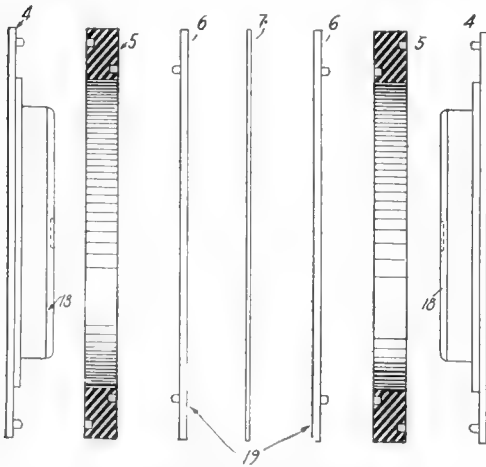

Fig. 1. Metallic spacing washers used in the new quenched spark-gap
**I**N designing quenched spark-gaps a number of inventors have attempted to produce dischargers in which the spacing of plates, or length of gap, would not be determined by the pressure applied to the gaskets separating the elements of the gap. When thin press-board or rubber composition gaskets are used under heavy pressure, the gaps sometimes become too short. This is especially likely to happen when the apparatus grows hot after long use. A method of construction patented by R. Pfund in late 1915, and shown in specification 1,161,520, from which Fig. 1 is reproduced, avoids some of these troubles by using metallic spacing-washers. The gap elements are made up, as shown in this drawing, from base plates 4 which have attached to them the raised sparking-surfaces 18. Insulating-rings 5 support metal rings 6, and, after the half unit consisting of 4, 18, 5 and 6 is assembled the active gap surface 18 is turned off so as to be exactly in the
The complete assembly of the gap is shown in Fig. 2. Units built up as in Fig. 1 are supported upon the two lower rods 10, and between them are inserted